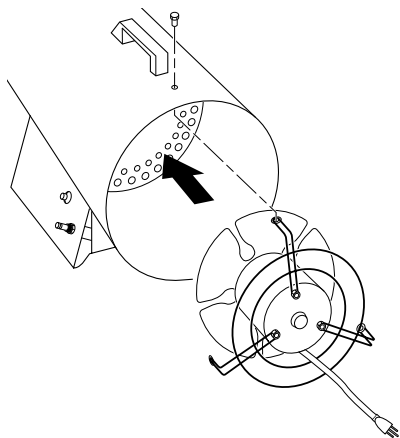

Figure 12 - Replacing Motor and Fan Guard into Heater
- Place motor and fan guard into rear of heater shell. Make sure power cord is properly located (see Figure 12).